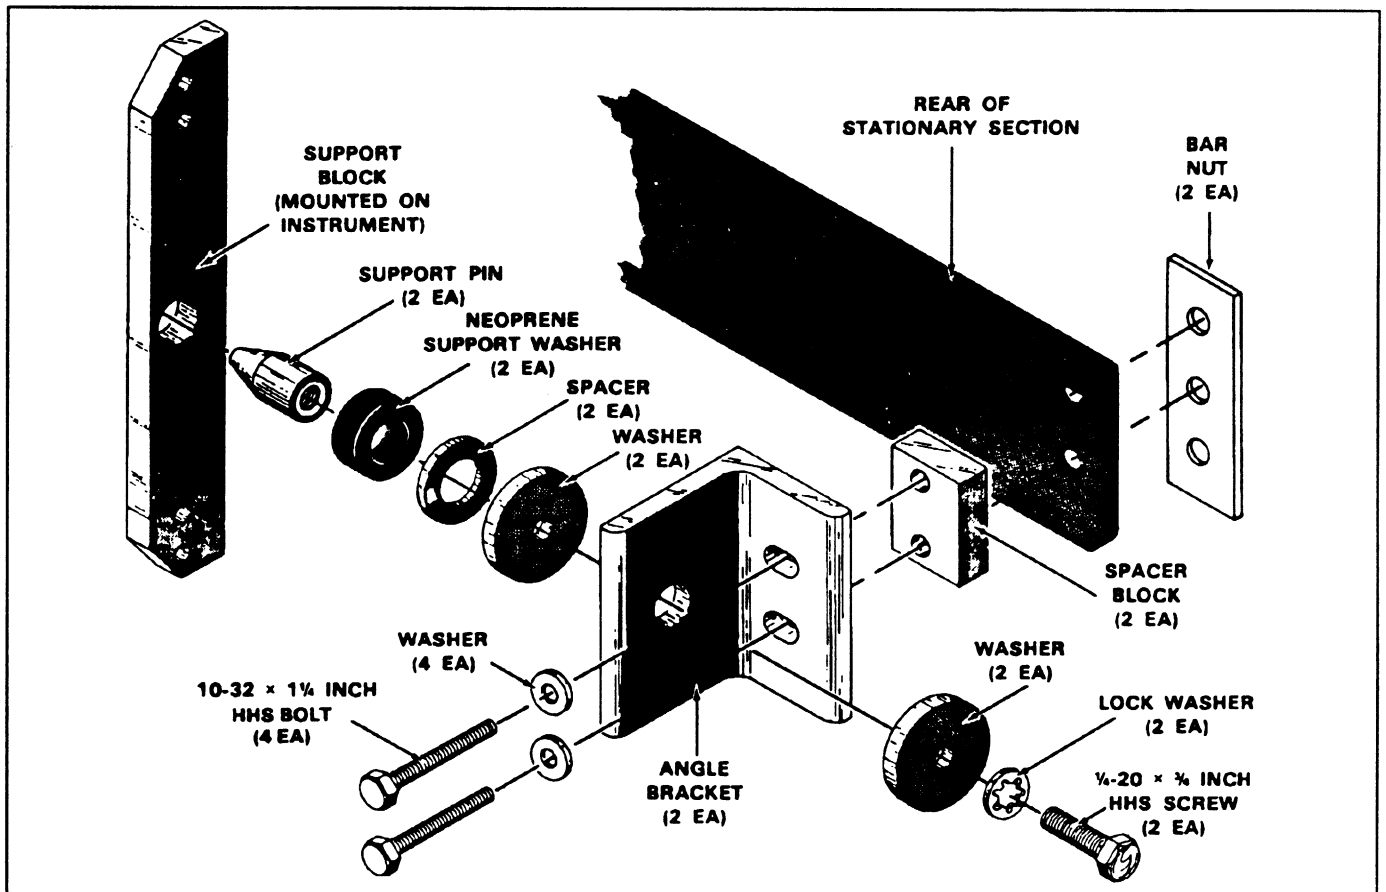

Fig. 11-4. Rear support kit.
In an environment where the rackmounted instrument will be subject to severe vibration and shock, the supplied rear-support kit (Tektronix Part Number 016-0096-00) must be used. See Fig. 11-4.
*The holes in the spacer block (Fig. 11-4) are not centered. The spacer blocks must be mounted with their narrow edges toward the front of the rack. This allows the instrument to slide fully into the rack.*
3. Attach an angle bracket to each of the rear rails by inserting the mounting bolts through the angle brackets, spacer blocks, stationary sections of the slide-out tracks, and into the rear support members of the rack cabinet, assembling the parts as shown in Fig. 11-4. The bolts should be fully inserted and lightly seated, but not tightened at this time.
4. Attach the support pins to the angle brackets as shown in Fig. 11-4, temporarily leaving out the spacers between the neoprene support washers and flat washers.